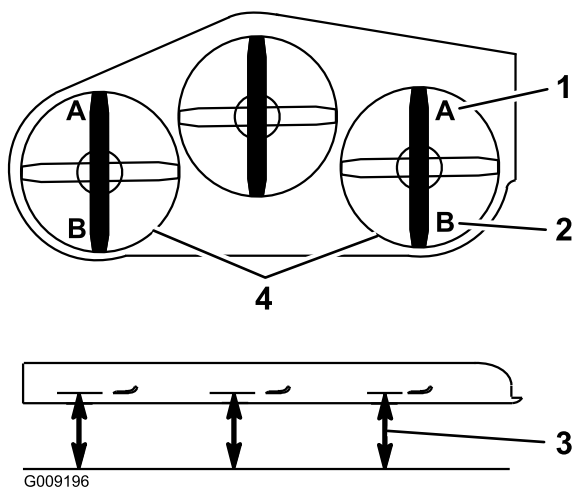

Figure 101
9. On both sides of the deck, measure from the level surface to the front tip of the blade (Position A) as shown in Figure 101.
15. On both sides of the deck, measure from the level surface to the back tip of the blade (position B) as shown in Figure 101.